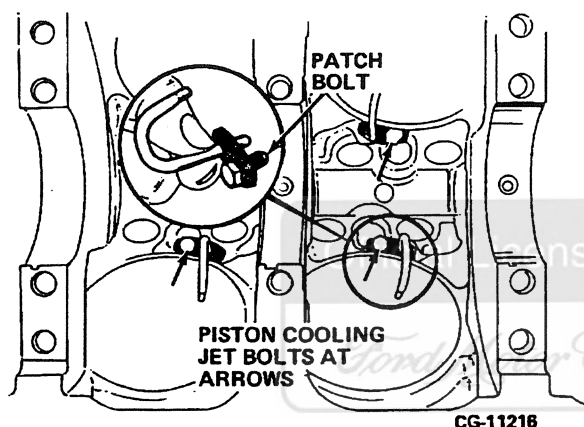

Figure 6.38. Piston Cooling Jet Removal
1. Remove each piston cooling tube (Figure 6.38) by removing the retaining bolt. **NOTE:** The retaining bolts are special "patch type" bolts, **DO NOT** substitute.